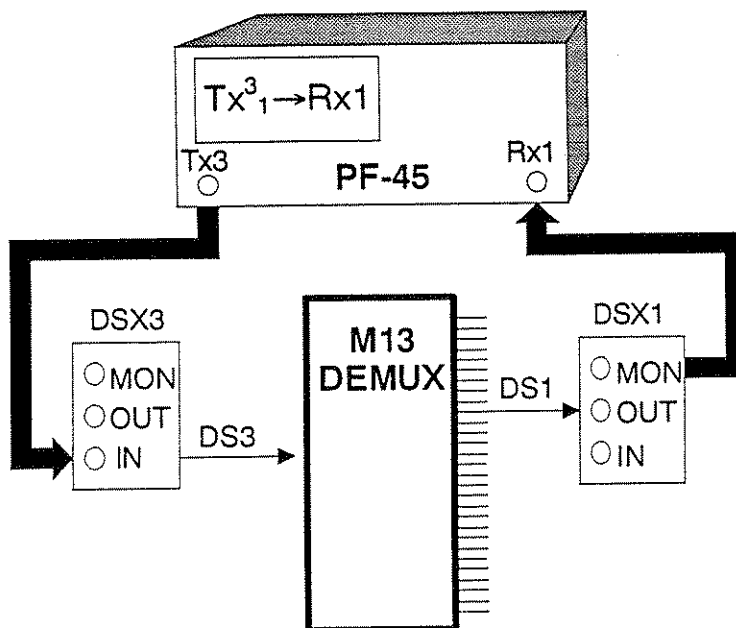

Figure 4-6: Tx31->Rx1 Mode
[Tx31->Rx1] mode (Fig 4-6), is used for DS1 testing when the test object requires the DS1 test signal be already embedded in DS3, but the returning test signal is at DS1 line rate. In this case the system under test may be an M13 demux, or simply perform that function.
1. - Connect the PF-45 DS1 receive jack [14] to the monitor jack of the outgoing DS1 at the DSX cross-connect panel with the appropriate cable, as shown in Figure 4-6.
- Connect the PF-45 DS3 transmit jack [11] to the DS3 input jack of the multiplexer at the DSX cross-connect panel with the appropriate cable, as shown in Figure 4-6.